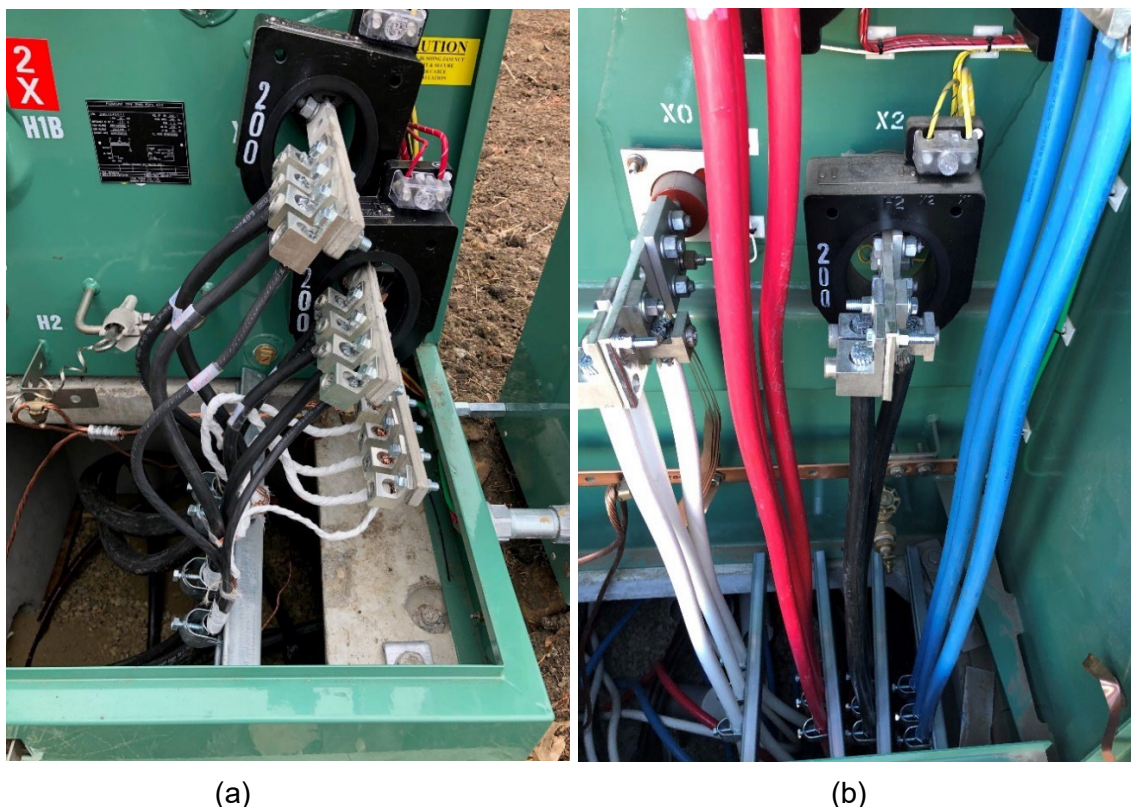

Figure 21 – Transformers with a cable management system:
- **Cable Management System** - When more than four cables per terminal or phase are installed, supply and install a cable management system with a clamp and strain relief mechanism compatible with a Unistrut channel or rail located below the low-voltage terminals of the supply service transformer (see Figure 21). While the use of a cable management system is required when more than four cables per terminal or phase are present, it is also recommended as good engineering practice to support all cables, including armored cables. This system provides strain relief, supports cable weight, facilitates routing, and maintains organization within the vault opening.